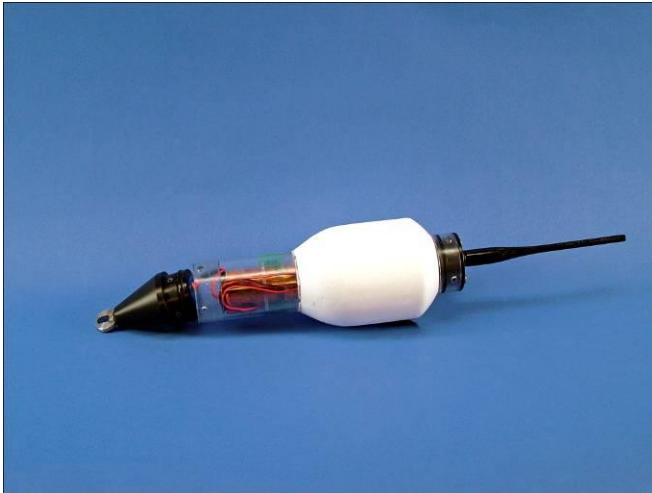

Fig. 1 Screws removed and nose cone disengaged from TMT-464-2 and TMT-464-3
1. Clean all debris from the removable nose cone/tube assembly of the electronics housing. Using a 7/64" Allen wrench, remove the four (4) 6-32 socket-head cap screws and remove the nose cone **HD008978-001** with attached battery VHF battery pack from the housing. **(Fig. 1)**